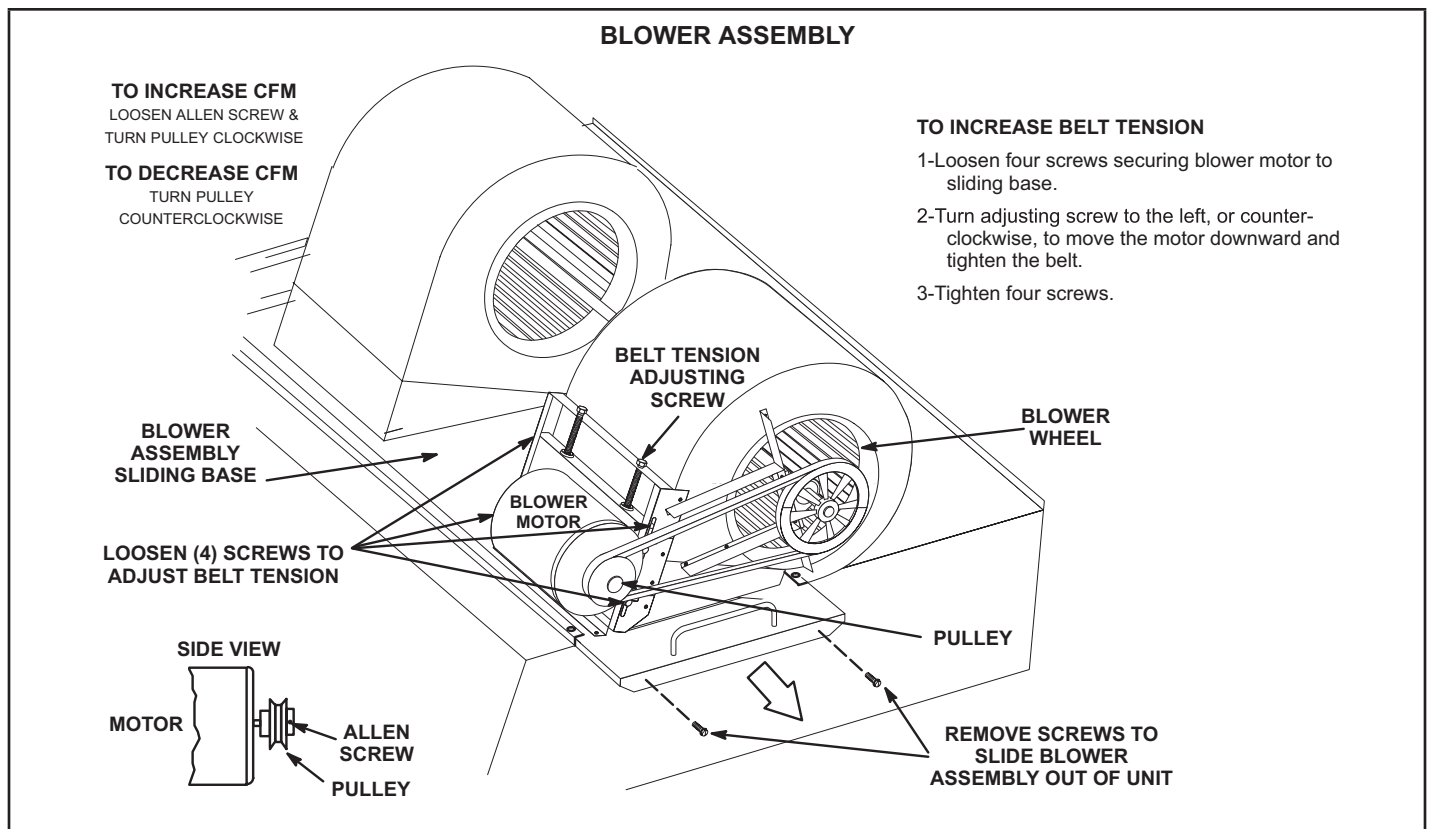

FIGURE 12
The blower compartment in all units is located between the evaporator coil and the compressor / control section on the opposite side of the condenser coil. The blower assembly is accessed by disconnecting the blower motor wiring (and all other plugs) and removing the screws on either side of the sliding base. The base pulls out as shown in FIGURE 12.
- 2 - Remove screws on either side of blower assembly sliding base. See FIGURE 12.
- 4 - The blower RPM can be adjusted at the motor pulley. Loosen Allen screw and turn adjustable pulley clockwise to increase CFM. Turn counterclockwise to decrease CFM. See FIGURE 12 . Do not exceed minimum and maximum number of pulley turns as shown in TABLE 5.
- 1 - Loosen four screws securing blower motor to sliding base. See FIGURE 12.